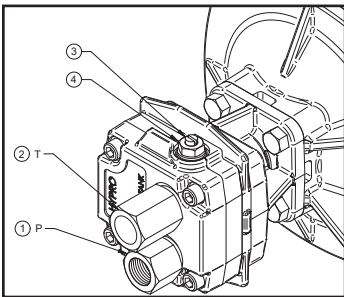

Figure 27
1. Do not use a restriction orifice at the motor entry (P) **(1 on figure 27)**.
2. Make sure to close and lock down the bypass adjusting screw in the hydraulic motor **(4 on figure 27)**.